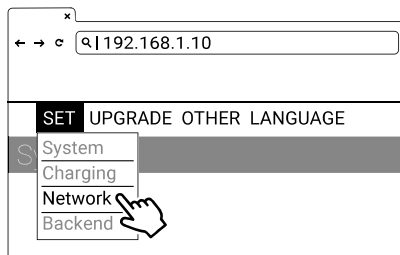

Figure 4-4. SET Menu
- 1) Select Network. Refer to the following figure 4-4.